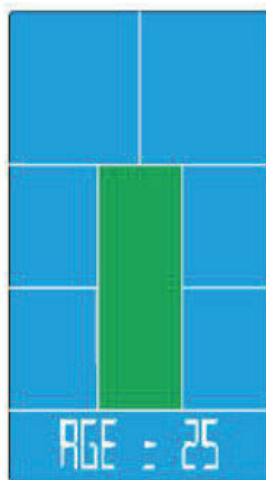

Fig. 14
2. Set your age with the UP/DOWN buttons and confirm the setting with the MODE button (see fig. 14)